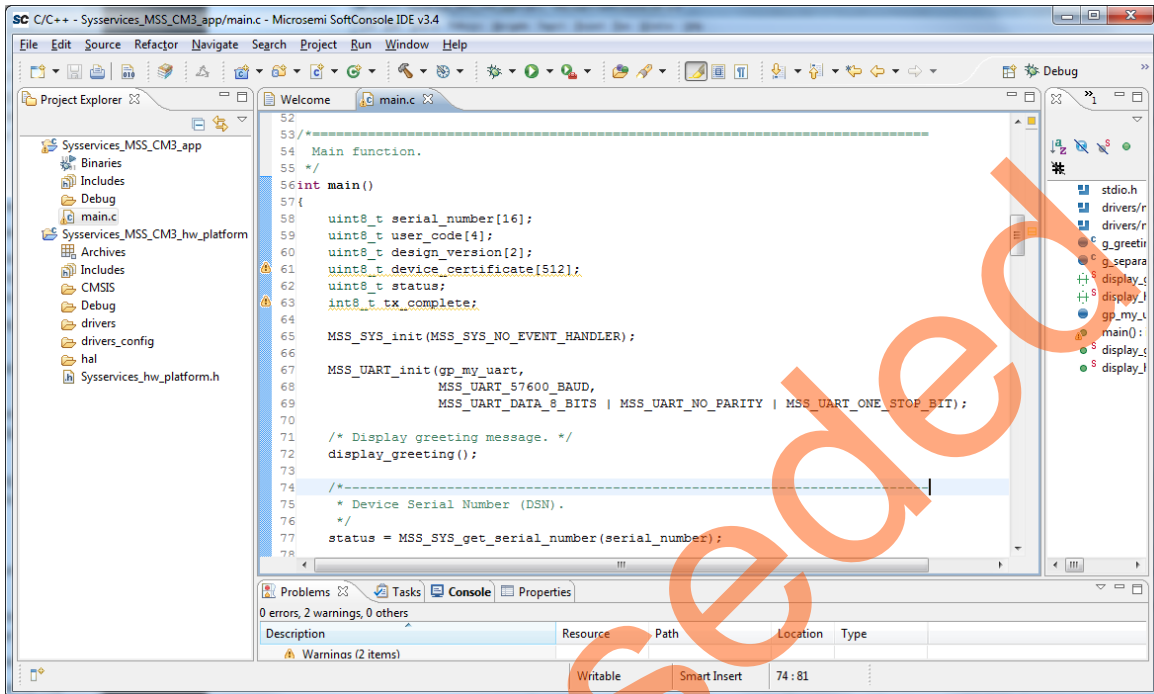

Figure 32 • SoftConsole Workspace - main.c File
- Copy the `main.c` file and replace it with the existing `main.c` file under **Sysservices_MSS_CM3_app** project in the SoftConsole workspace. The SoftConsole window looks as shown in Figure 32.